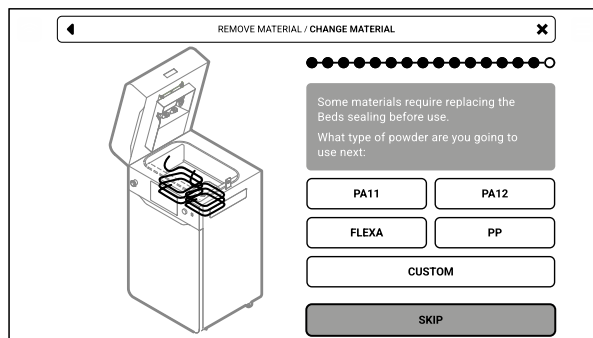

Fig. 10.9 Prompt to select the next used material.
- 22. Some materials require replacing both the Bed sealing before use. Select the type of material you will use from the list on the screen. (fig. 10.9).